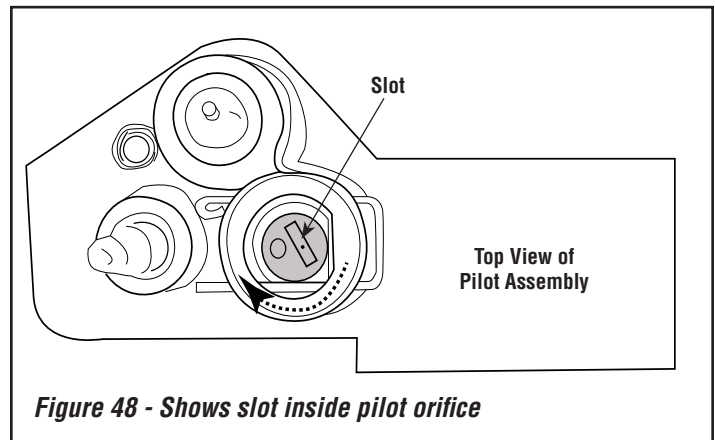

Figure 48 - Shows slot inside pilot orifice
Step 9. Insert a small flat bladed screwdriver into the slot of the brass orifice inside the pilot assembly and turn clockwise  until it stops (approximately 2 full revolutions). See **Figure 48**.
NOTE: Figures 48 and 49 provide a visual reference of the pilot orifice from Natural gas to LP gas through the vent hole of the pilot assembly.